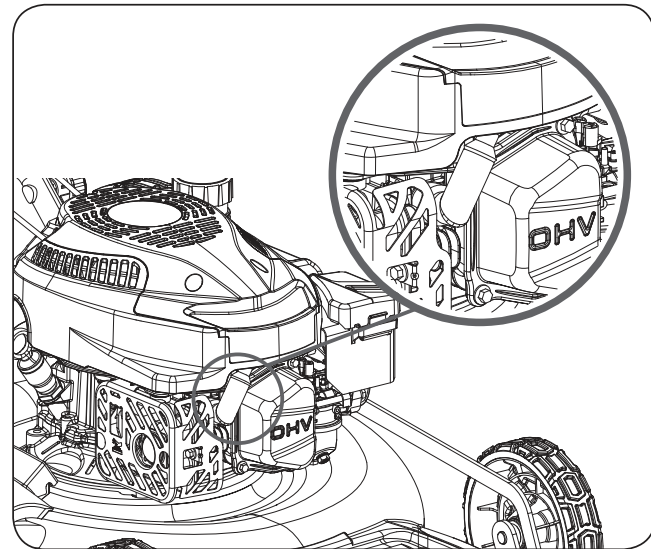

Figure 17
- Disconnect spark plug wire from spark plug and place wire where it cannot come in contact with plug. (See **Figure 17**)